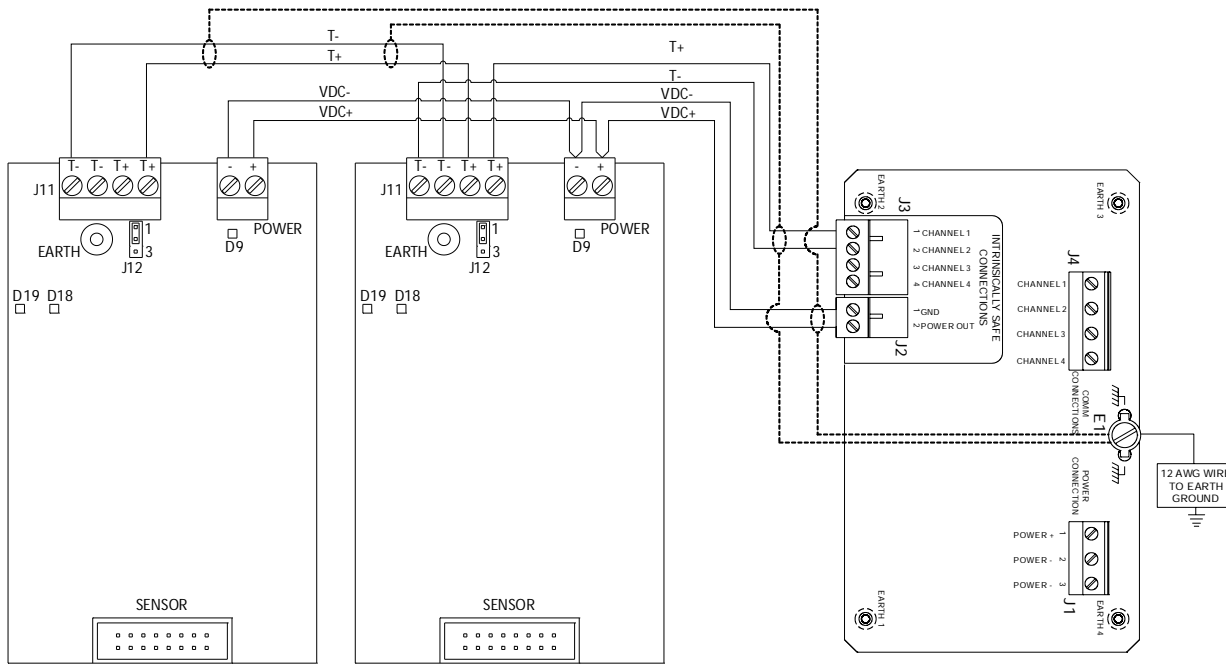

Figure 33: Wiring the LevelMaster to the barrier board
1. Remove the intrinsically safe J2 and J3 terminal connectors (Figure 33).